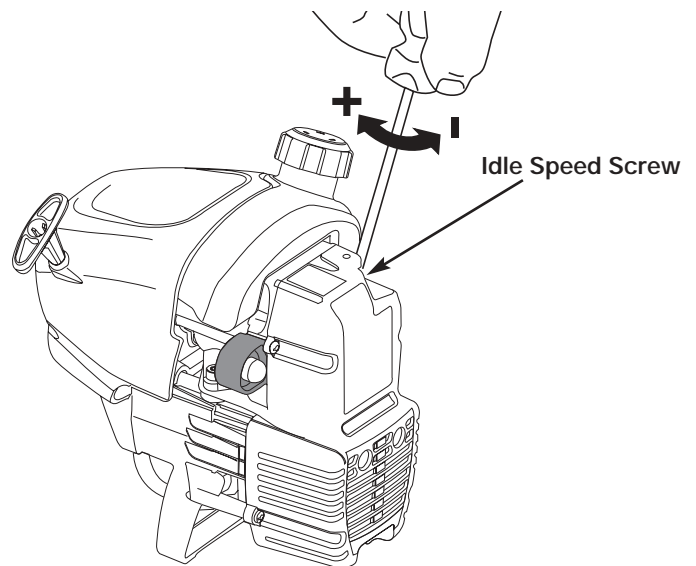

Figure 33
The idle speed of the engine is adjustable through the air filter/muffler cover. See Figure 33.
2. Release the throttle trigger and let the engine idle. If the engine stops, insert a small Phillips or flat blade screwdriver into the hole in the air filter/muffler cover. See Figure 33. Turn the idle speed screw in, clockwise, 1/8 of a turn at a time (as needed) until the engine idles smoothly.